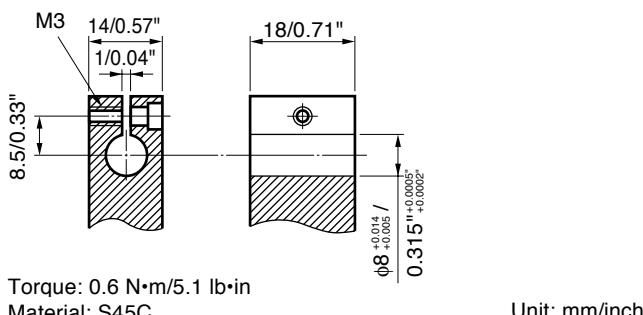

Fig.3. Mount Holder Dimensions (Example)
- A holder of the dimensions shown in Fig. 3 may be used to mount the probe, tightening the screw to about 0.6 N·m (6kgf·cm) torque.